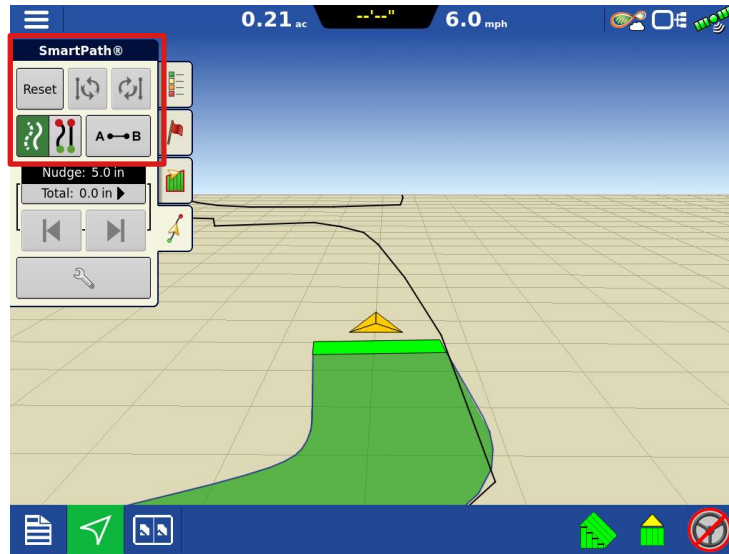

Figure 2 – Able to group identical curve guidance patterns with SmartPath®
- **NEW:** RightSpot™ nozzle by nozzle spraying system (Figure 2)
Figure 2 – Maintain consistent droplet size and boom pressure across speed ranges with RightSpot™, in addition to nozzle-by-nozzle AutoSwath control and turn compensation to apply accurate rates around curves
- **ENHANCED:** SmartPath® pattern grouping options (Figure 2)